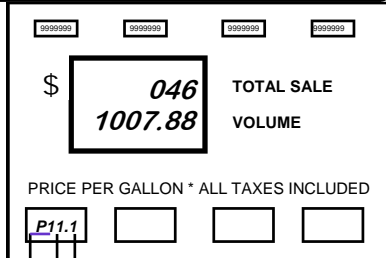

Figure 1
1. Press and hold the hidden button Blank Display for five seconds. See Figure 6 for location. When the first Money totals appear release the button. The display appears as in Figure 1 with P11.1 showing in the price per gallon window to indicate the first Money total for Product 1.
4. Press the button again and the Money totals for Product 2 appear as in Figure 1. Repeat steps 2 and 3 for the Product 2 totals and the remaining hoses on this side of the dispenser.